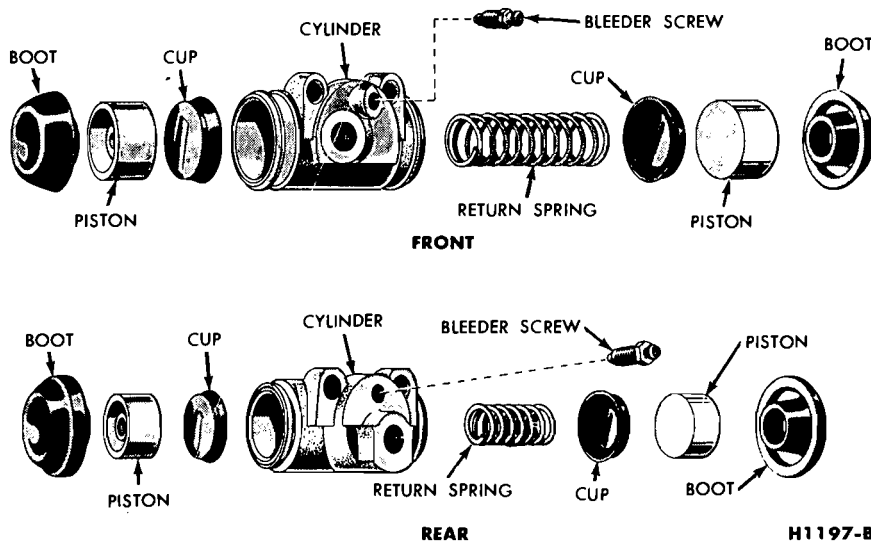

FIG. 17—Front and Rear Wheel Cylinders
On 8-cylinder models and on all Montego and Fairlanes, remove the links and rubber boots from the ends of the piston. Remove the pistons, cups, and return spring from the cylinder bore (Fig. 17).
3. Insert the return spring, cups, and pistons into their respective positions in the cylinder bore (Fig. 17). Place a boot over each end of the cylinder. On 8-cylinder model Mustangs, Cougars, Falcons and all Montego and Fairlanes, install the links in the ends of the brake cylinders.